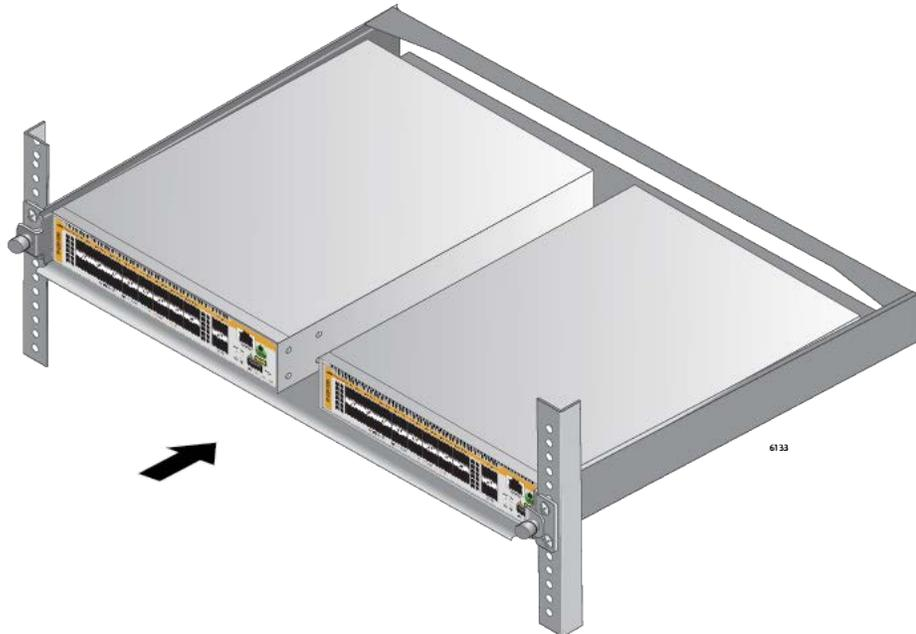

Figure 37. Sliding in the RKMT-J15 Tray
11. Slide in the tray to be level with the equipment rack poles as shown in Figure 37.